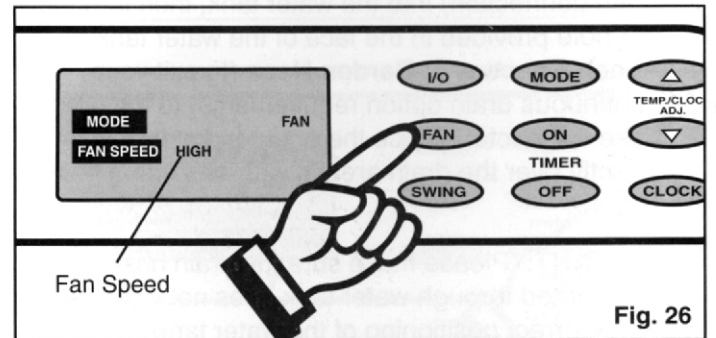

Fig. 26
- 3) Press the **FAN** key to select the desired **FAN SPEED** setting. *Fig. 26.* Your selection will be displayed in the **LCD** window. Each depression of the fan key will advance to a different speed (**High-Med-Low**).